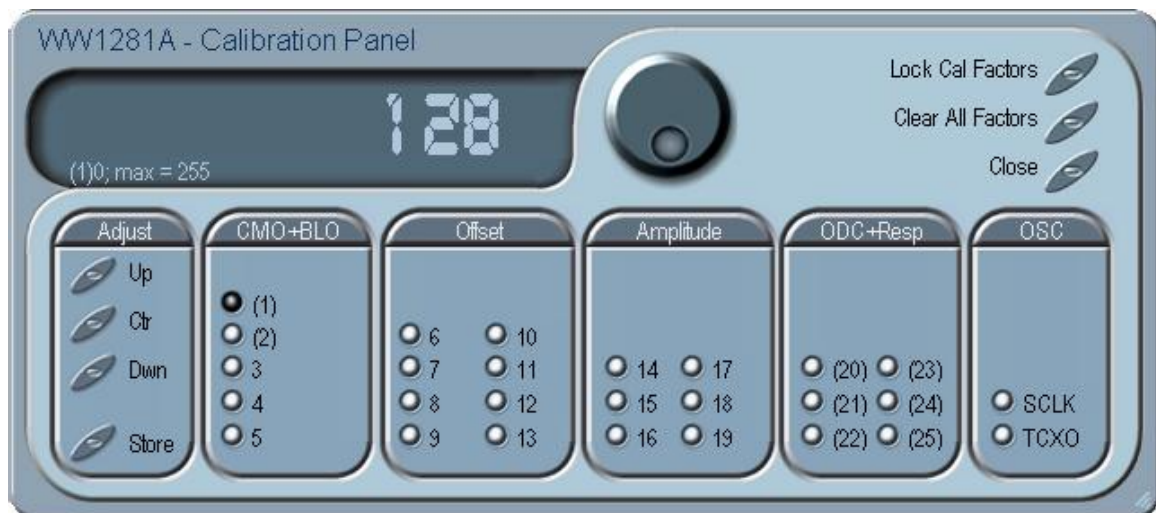

Figure 7-2, Calibration Panel
4. Type your User Name Password and click on OK. The Calibration Panel as shown in Figure 7-2 will appear.